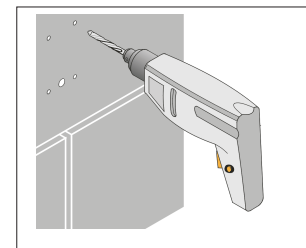

Fig. 3
- 3 - Drill the fixing holes. (Hole diam: 5mm) (Fig. 3);